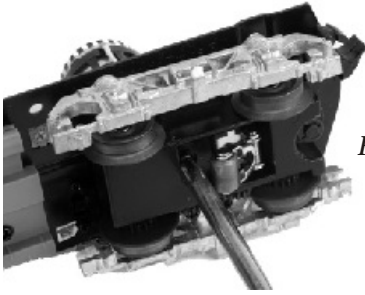

Figure 5. Removing Motor Mount Screw
2. Remove the truck blocks from the chassis by unscrewing the black Phillips motor mount screw on the bottom of each truck block, as shown in Figure 5.